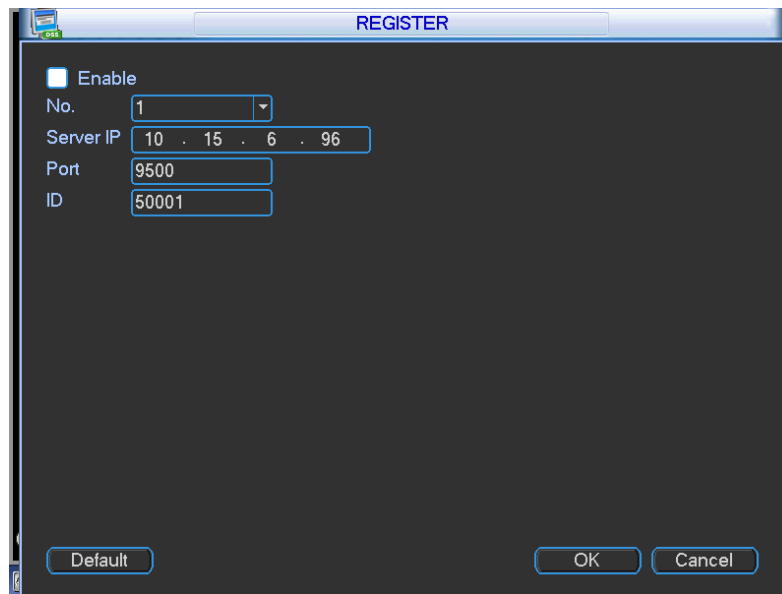

Figure 3-3
From main menu->vehicle->Register, you can go to the following interface. See Figure 3-3.
1) The setup interface is shown as in Figure 3-3.
- 3) Now you can add device. Please do not input default port number such as the TCP port in the mapping port number. The device ID here shall be the same with the ID you input in Figure 3-3. Click Add button to complete the setup.